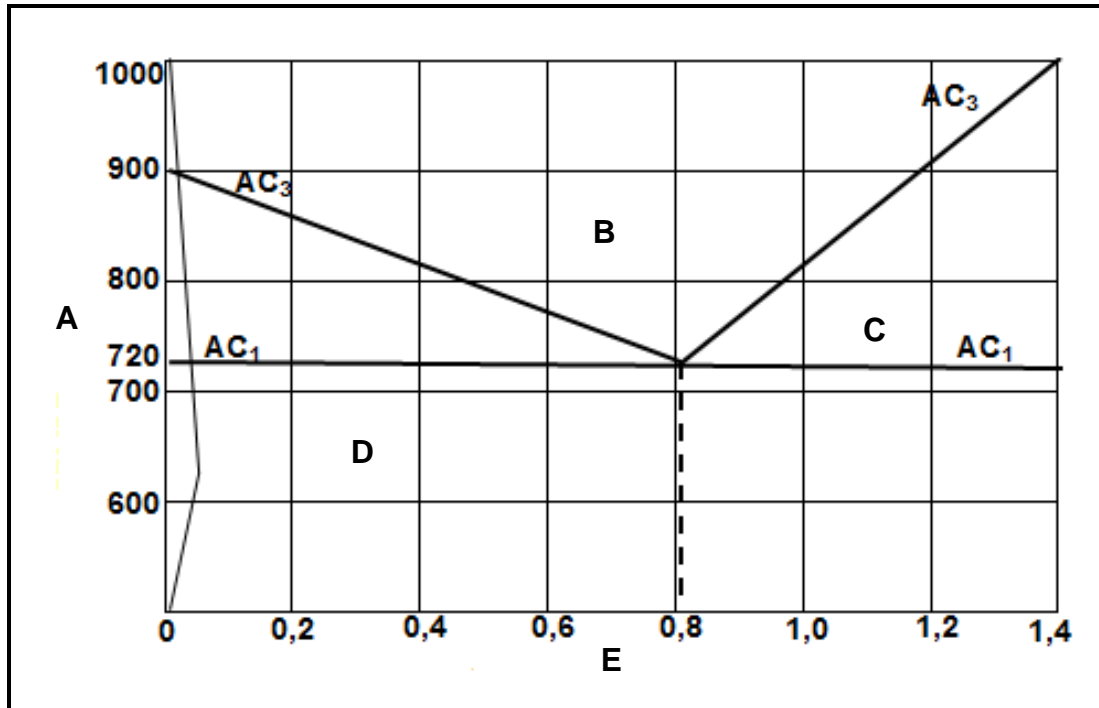

FIGURE 9.3
- 9.3 Study FIGURE 9.3 below and answer the questions that follow.
- 9.3.1 Identify the diagram in FIGURE 9.3. (1)